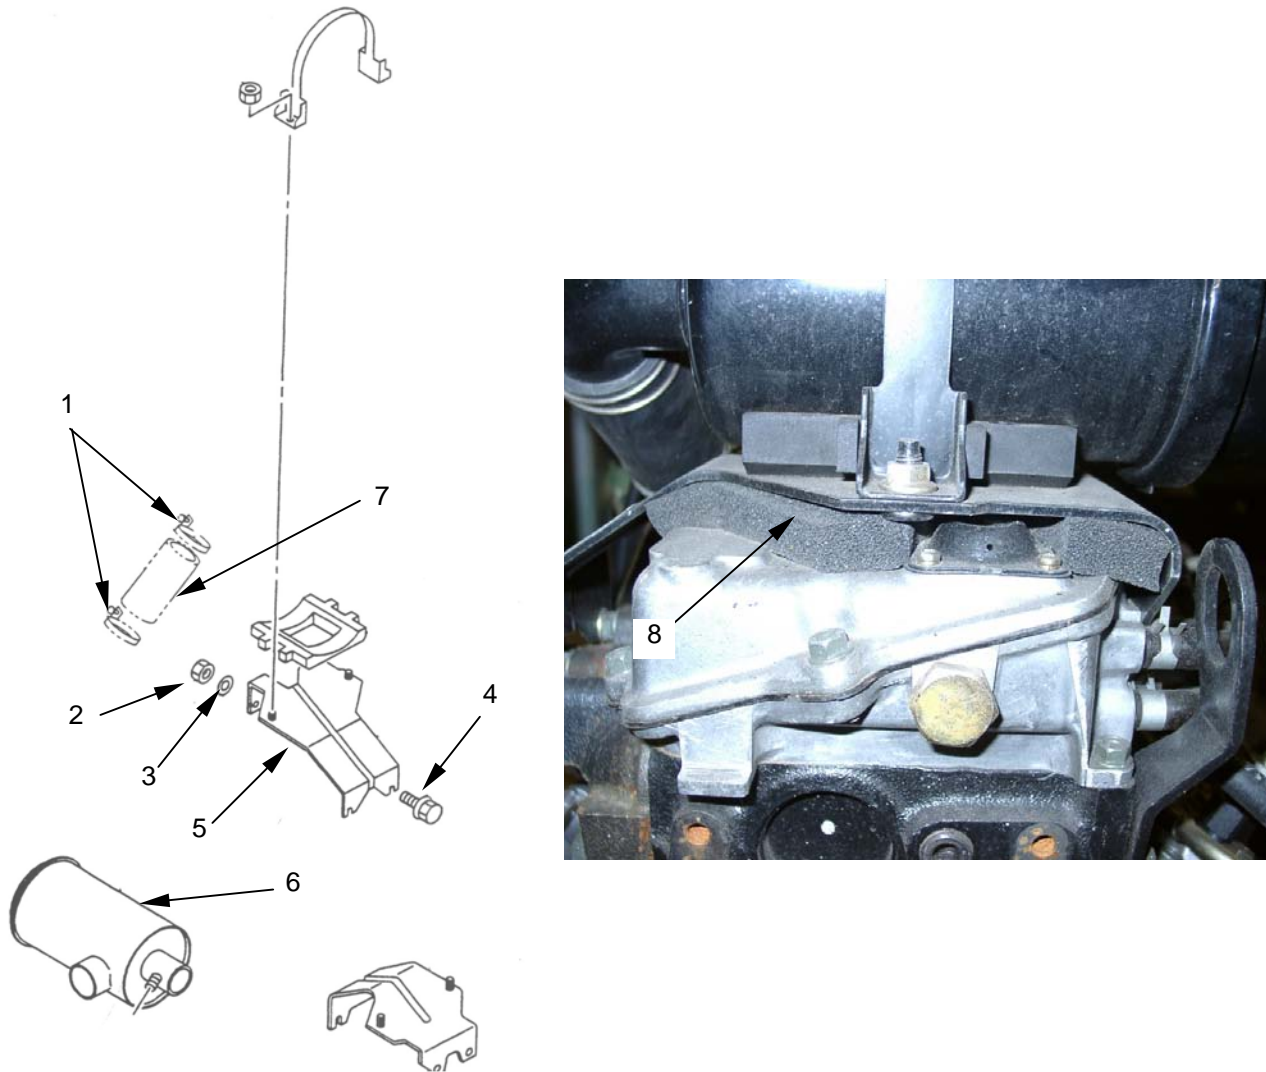

Figure 41. Air Filter
- (1) Loosen hose clamps (**figure 41, item 1**).
- (2) Loosen and remove nuts (**figure 41, item 2**), lockwashers (**figure 41, item 3**) and bolts (**figure 41, item 4**) from air filter mounting bracket.
- (3) Remove mounting bracket (**figure 41, item 5**).
- (4) Remove air filter assembly (**figure 41, item 6**) from flex hose (**figure 41, item 7**).
- (5) Remove foam padding (**figure 41, item 8**).